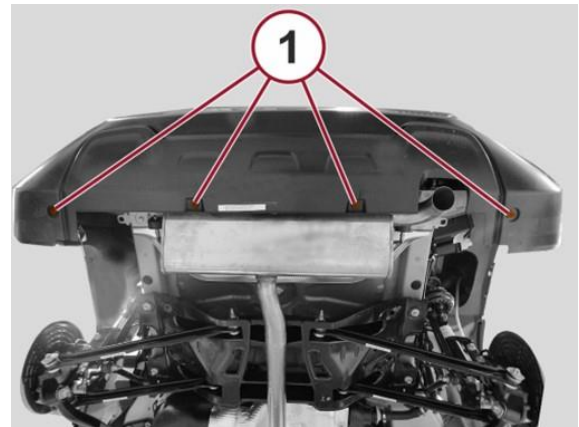

Figure 6 – Rear Fascia
10. Remove the four screws (1) at the bottom of the rear fascia (Figure 6).
34. Install the screws (1) at the bottom of the rear fascia and tighten securely (Figure 6).